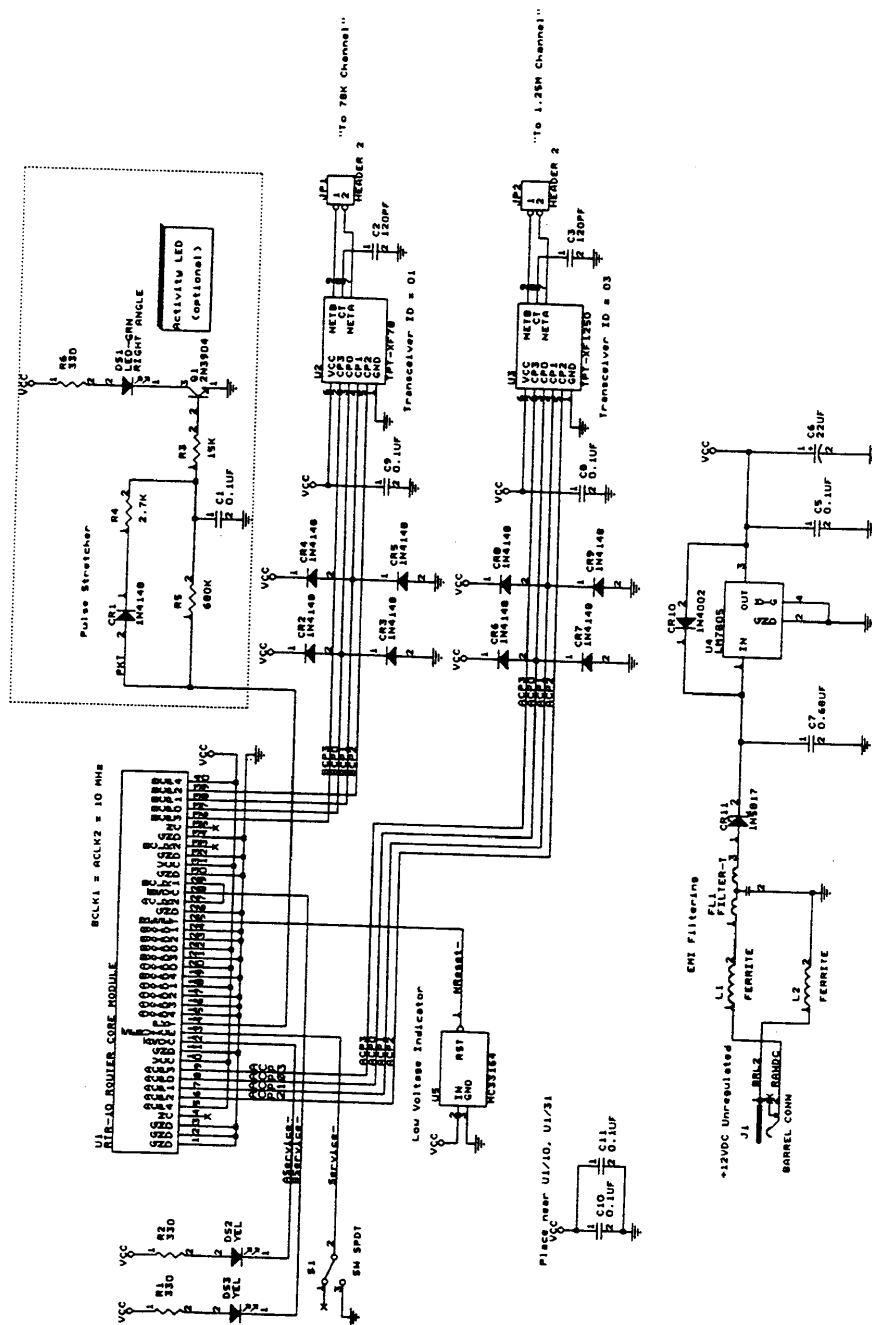

Figure 5.1 Router Motherboard Sample Schematic
It is necessary to include a low voltage protection circuit on the router motherboard to drive the \sim RESET line of the RTR-10 router. See Section 9.4 of the *Neuron Chip Data Book*. Failure to include such protection may cause data corruption to configuration data maintained in EEPROM on the RTR-10 Neuron Chips. In the sample circuit of figure 5.1, protection is provided via a Motorola MC33164.
The pinout of the RTR-10 Router Core Module is shown in table 4.1. See Chapter 6 of the *Neuron Chip Data Book* for more information about the use of the Neuron Chip communication port pins. For the transceiver interface in the sample schematic of figure 5.1, ESD protection diodes are used on the CP0 and CP1 comm lines, and the center tap of the twisted pair coupling transformer is bypassed to ground.
Each side of the RTR-10 router has an independent service output : ~ASVC for the A Side and ~BSVC for the B Side. These outputs may be attached to service LEDs as shown in figure 5.1. The function of the service pin is described in Chapter 9 of *Neuron Chip Data Book*. The internal pullup resistor for the service pin on each side is enabled. The service LEDs reflect the firmware status: *blinking* means that the router side is unconfigured, *off* means that the side is configured, and *on* means that the side has failed.
The PKT output can be used as an activity indicator. When packets are passed between the router sides, PKT will be active. This is the unbuffered IO0 signal from the Neuron Chips. A pulse stretcher circuit driven by PKT can be used to make an activity LED flash, as in the example circuit shown in figure 5.1.
- 1** Build a router motherboard according to the specifications described in Chapter 4 and the guidelines described in Chapter 6. The motherboard may be part of custom application hardware, or may be a standalone board. Figure 5.1 is a sample motherboard schematic for a TP/XF-78 to TP/XF-1250 twisted pair router. Additional transceiver interfaces are described in the next section.